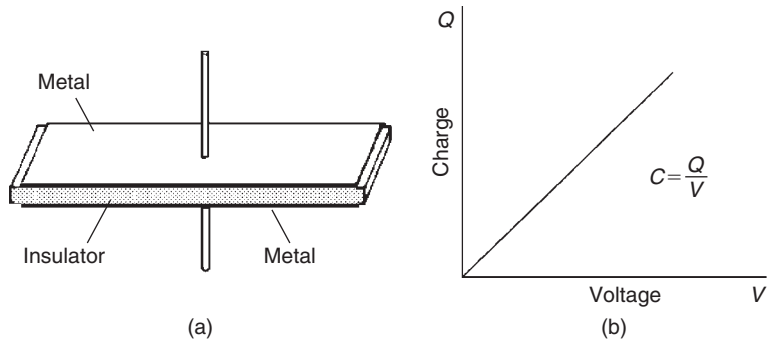

Figure 5.1 (a) Simple capacitor construction, and (b) charge, voltage and capacitance
While a capacitor is being charged or discharged, the ratio of the charge transferred between the plates to the voltage across the plates remains constant, so that a graph of charge plotted against voltage is a straight line (Figure 5.1). In symbols, $C = Q/V$, where Q is the charge measured in coulombs and V is the voltage in volts. The constant C is the capacitance which is measured in farads (F) when the other units are quoted in terms of coulombs and volts. This capacitance is constant for a given capacitor and its size depends on dimensions and materials.